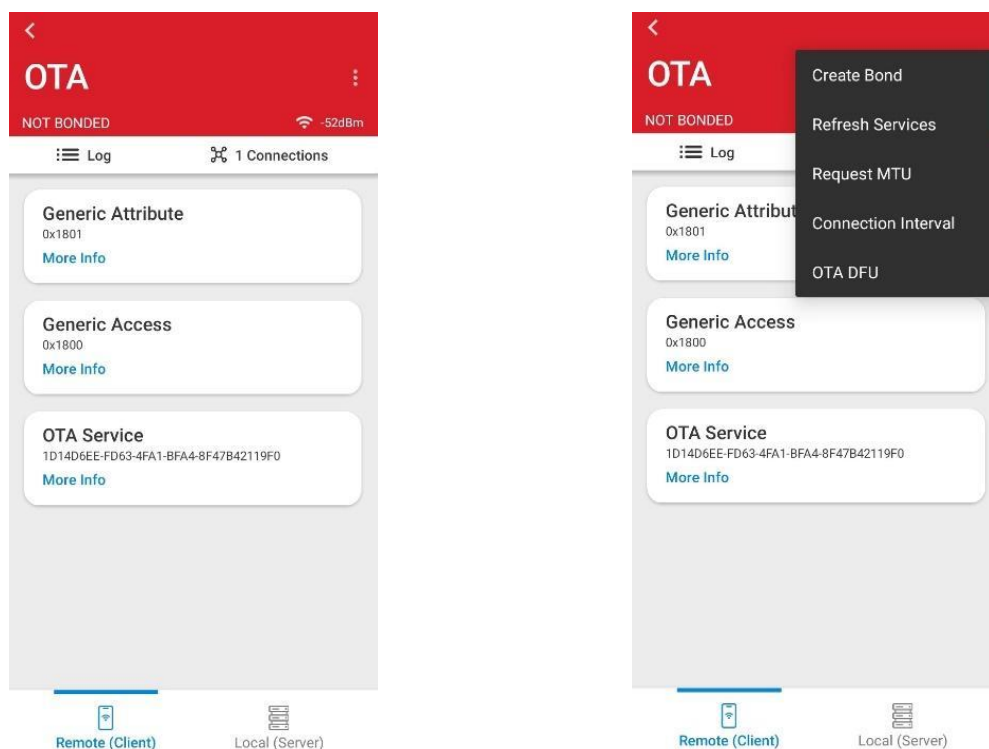

Fig. 5.10. Selecting “OTA DFU”
6) Press the “...” button in the upper-right corner and select “**OTA DFU**” (Fig. 5.10).